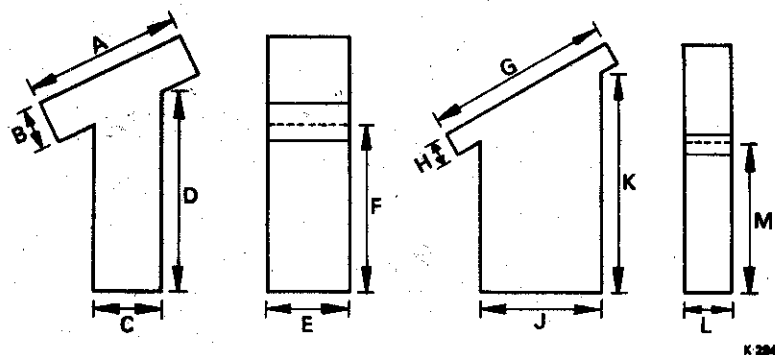

Fig. 1
2. If the outlet is one of the two narrow ones each side of the centre of the ducting, cut the piece of plastic provided to the dimensions given in Figure 1.